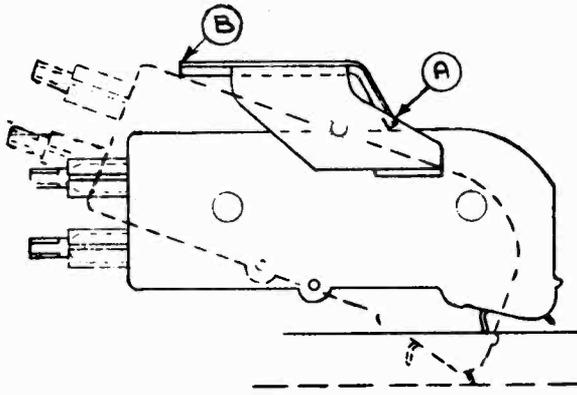

Fig. 9
2. Needle mounting bracket "fingers" improperly bent. See Fig. 9.